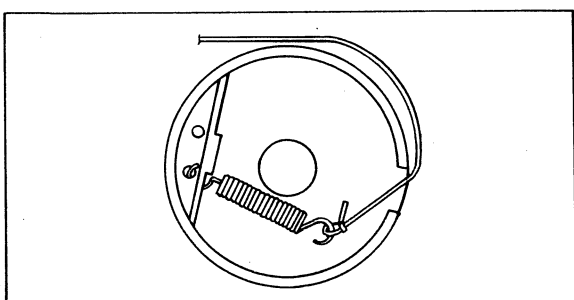

Fig. 2-8 Coil spring installation
1. Hook the spring to one hole of the drive drum as shown in Fig. 2-8.